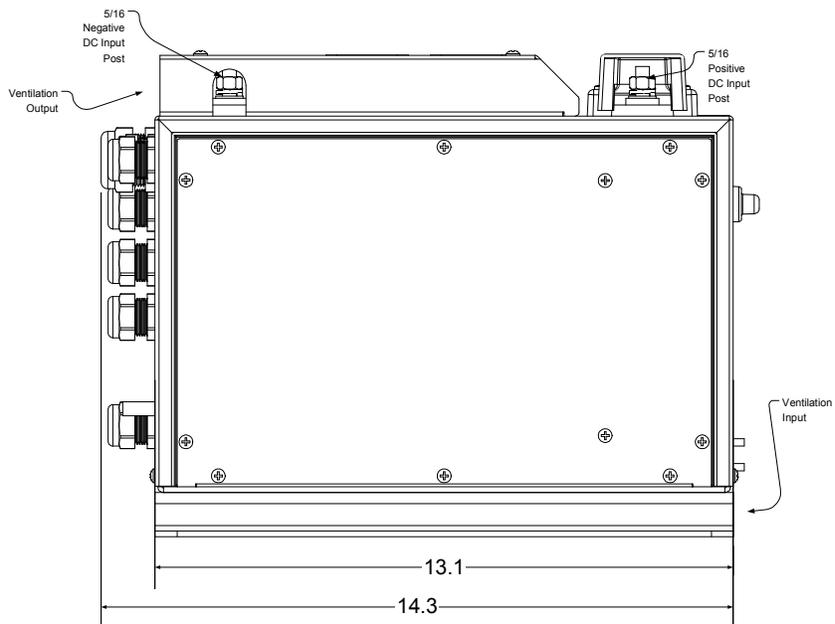

Figure 7 - MPG Shelf Mount Side View
- c. 2 inches of clearance **MUST** be given to the intake **and** outlet sides of the MPG shelf mount configuration (See Figure 7 for Fan Inlet and Outlet Locations).